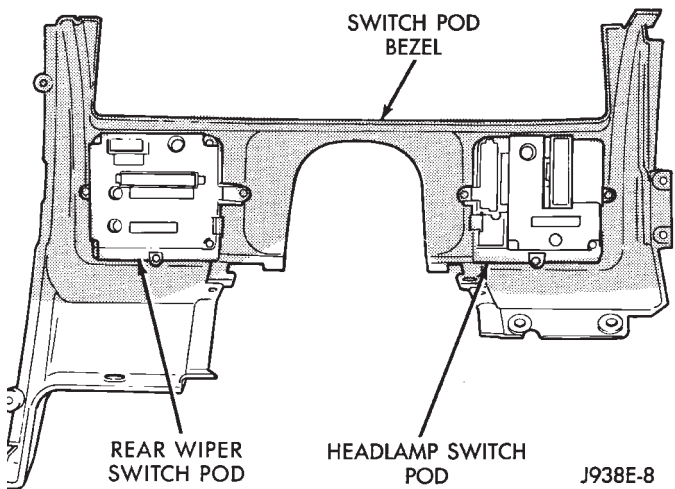

Fig. 10 Rear View of Switch Pod Bezel
(21) Pull switch pod bezel out far enough to remove switch connectors. Disconnect connectors from each switch pod and remove bezel (Fig. 10).
(22) Remove required switch attaching screws and switch.
(23) Reverse the removal procedures to install a new switch. Tighten steering column retaining nuts to 105 in. lbs.